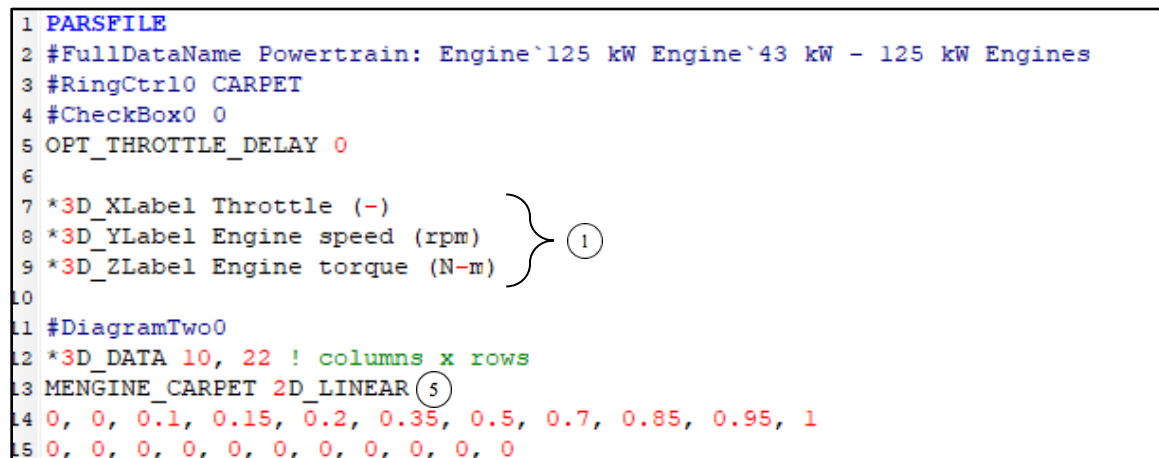

Figure 2: Parsfile within VS Browser, indicating input table characteristics
One useful method for determining the appropriate axis labels, axis units, and table type, is to find the location in the VS Browser where the data is typically entered and then to view the Parsfile for that screen. Figure 2 shows an example of the Parsfile, and the relevant information for the axis labels and units, as well as the table type.
In Figure 2, the x-label, y-label, and z-label are *Throttle*, *Engine speed*, and *Engine torque*, respectively, while the corresponding units are '-', *rpm*, and *N-m* (1).
Note The units here match those specified in Figure 2 (1), the type is 2D_Linear (5), and the -firstrowcolvalue option is selected, since the first row of the .csv file in Figure 4, represents the throttle values. In this case (6) is used for the Y axis values for each column. An explanation for the Y Value can be found in the VSOutput VSTable API document.